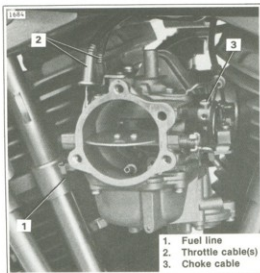

Figure 4-15. Carburetor Mounting
2. See Figure 4-15. Connect the fuel hose (1), throttle cable (2) and choke cable (3) to the carburetor.
3. Run float bowl vent line (34) down between engine and transmission.